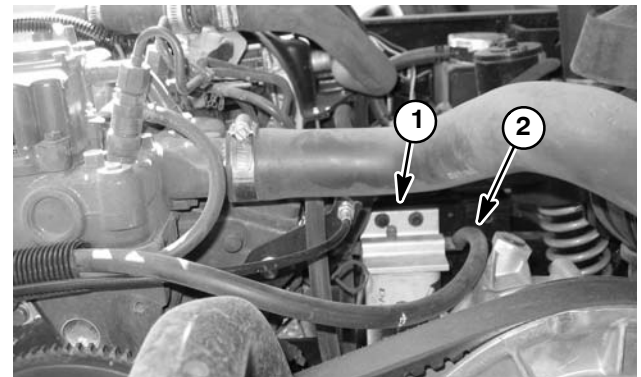

Figure 27
3. Disconnect fuel hose (fuel pump discharge) from the fuel/water separator inlet fitting (Fig. 27).